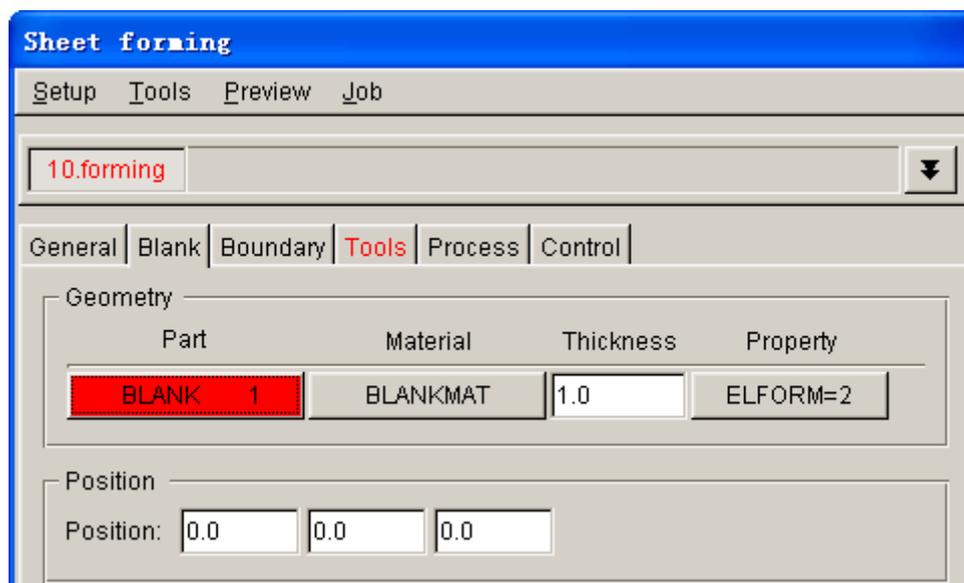

Figure 7.10 Blank definition interface
- Click the **Exit** button to return to the blank definition interface. Now, the color of Blank tab is changed to from RED to BLACK. See figure 7.10.